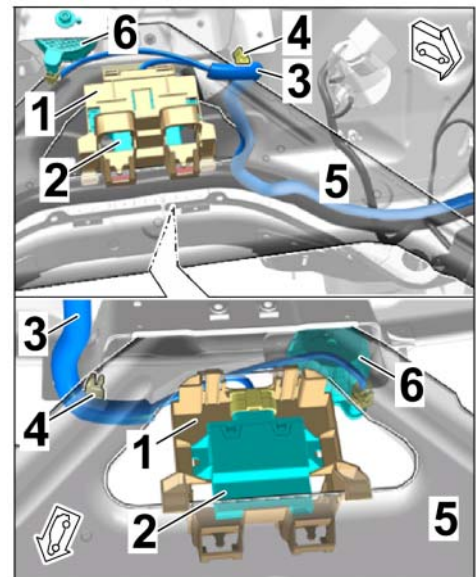

Figure 13
2.1.5 Install the holder with the engine noise control unit to the strut brace (plenum panel area) (⇒ *Figure 13*).